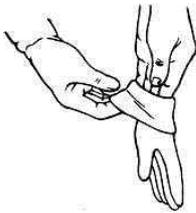

Figure 1
Before handling the StarBright CLR® material(P), put on the supplied pair of white gloves(N) to avoid leaving fingerprint marks, dust or oil from your hands on the surface of the material(Figure 1). The StarBright CLR® material(P) is very delicate and should be handled with extreme care. Do not allow the material to fold or bend. Failure to follow instructions will result in permanent damage to the screen material, which is not covered by warranty.
1. Remove the StarBright CLR® material(P) from the packaging tube and set it gently on a clean surface.